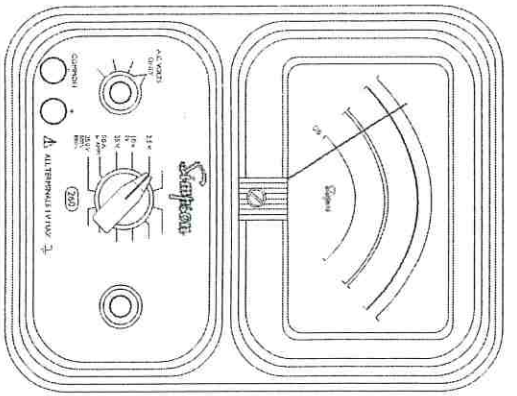

FIGURE 4-10. Jacks and Switch Positions for Measuring Decibels.
- Refer to Figure 4-10 for switch settings and jack connections.